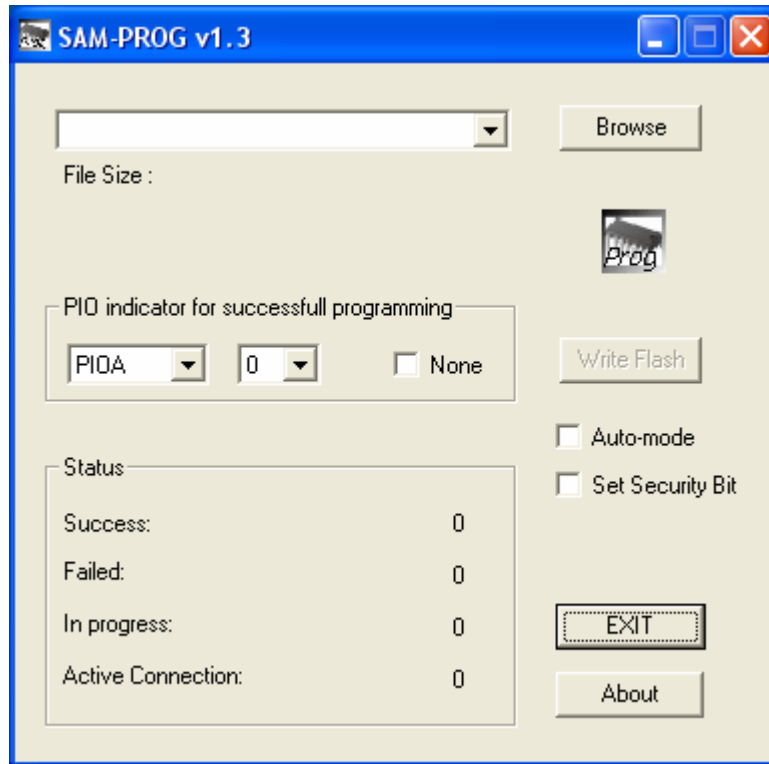

Fig. 44
Step 10: The SAM-PRO window will pop up and the user is now ready for firmware upgrade operation. (Fig. 44)